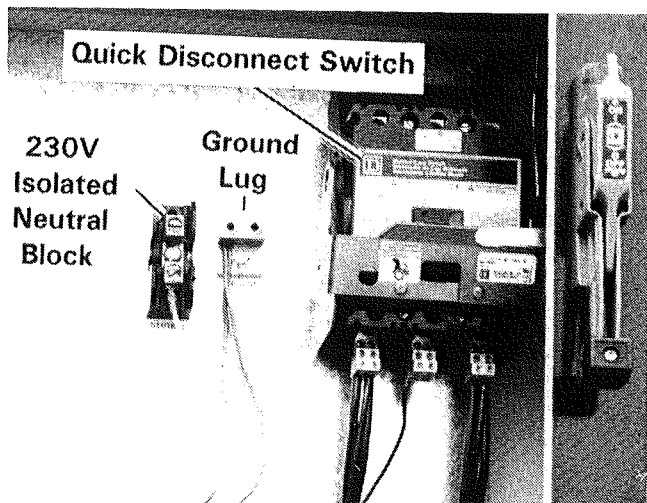

Figure 8 - Motor Control Cabinet
- Connect the power supply to the top lugs of the dryer disconnect switch located in the upper motor control cabinet. See Figure 8.
- When a 230 volt power supply is used, connect the supply neutral wire to the isolated neutral lug located in the motor control cabinet. See Figure 8.
must have the 230V supply wire connected to the center lug of the dryer disconnect switch as shown in Figure 8. If the 230V power supply wire is mistakenly connected to a 115V lug and the 115V wire that supplies power to the dryer controls is connected to this lug, the dryer controls will be damaged.
- For this reason, the 115V power supply wire to the dryer control panel is not connected to the disconnect switch at the factory. There is a loose black wire with an orange tag attached that reads "115 Volts" that is close to the disconnect switch. Connect this wire to one of the 115 volt lugs at the bottom of the switch. See Figure 8.